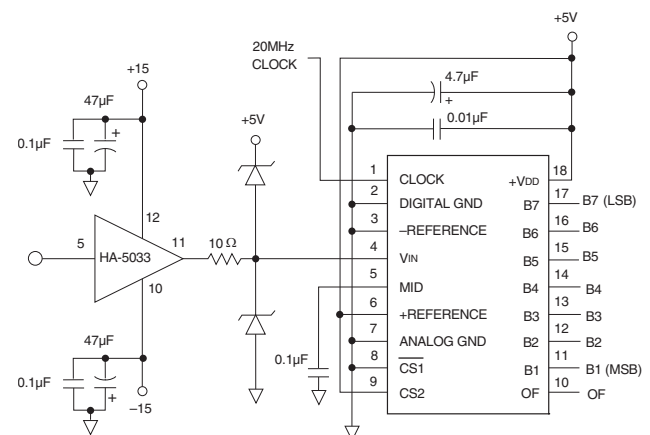

Figure 2. Typical Connections for Using the ADC-207
1. **Input Buffer Amplifier** – Since the ADC-207 has a switched capacitor type input, the input impedance of the 207 is dependent on the clock frequency. At relatively slow conversion rates, a general purpose type input buffer can be used; at high conversion rates DATEL recommends either the HA-5033 or Elantec 2003. See Figure 2 for typical connections.